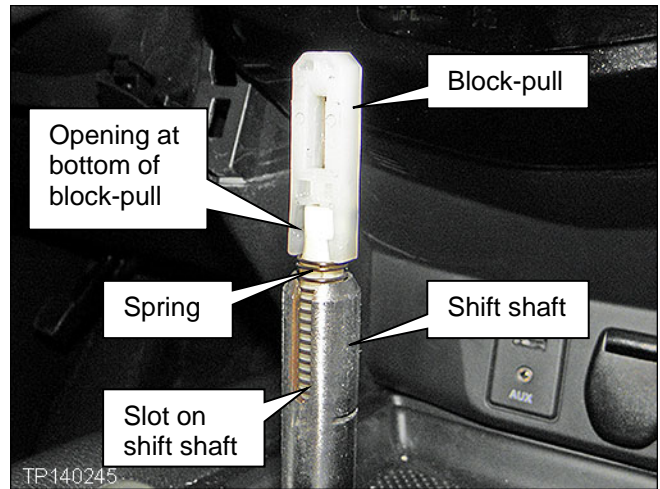

Figure 4
- Make sure they are reinstalled correctly, as shown in Figure 4.
- The opening at the bottom of the block-pull must be aligned with the slot on the shift shaft as shown in Figure 4.